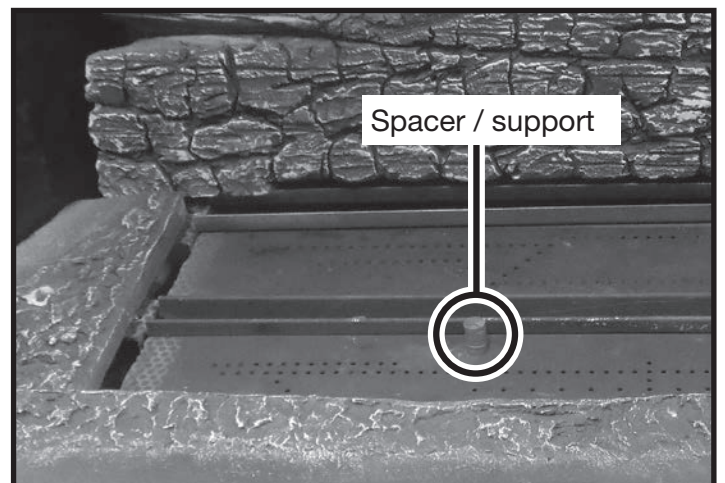

Figure 74: Spacer support.
8. Place included metal spacer/support over top of the left-hand side post located on the front burner (Figure 74). This spacer will support the front end of log number two. **Note: Spacer may already be present and fastened to the burner.**